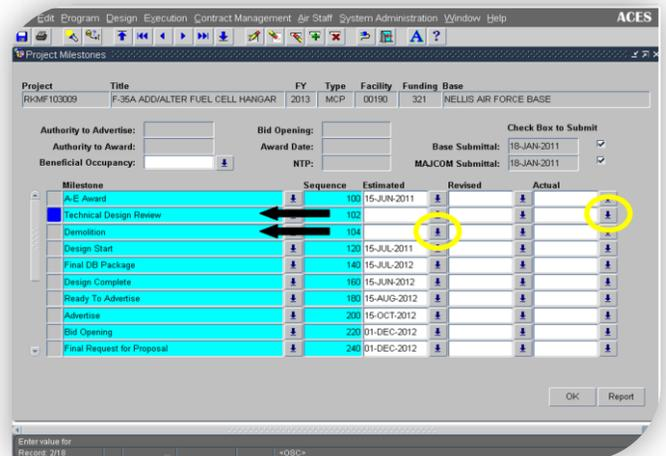

Figure 3.11a. Technical Design Review Milestones
- The PDT considered and included Value Engineering (VE) for all projects (AFI 32-1023 requires an informal (in-house) VE for all projects >\$2M and formal (3rd Party) VE for all traditional designed projects >\$10M), and
- 1) If not entered in the Milestone already (Figure 3.11a), use the drop down menu to select *Technical Design Review* milestone and insert the Actual date using the drop down calendar.
- 2) If not entered in the Milestone already (Figure 3.11a), use the drop down menu to select *Demolition* milestone and insert the Estimated date using the drop down menu.
The DM/CM can track other project demolition milestones when useful for project management. When used to track non-reportable demolition, prefix the milestone with specific description of the demolition (i.e. plumbing demolition, interior demolition, site demolition, etc.). Use the “Demolition” milestone (Figure 3.11a) to track only reportable demolition (as noted on the DD1391).